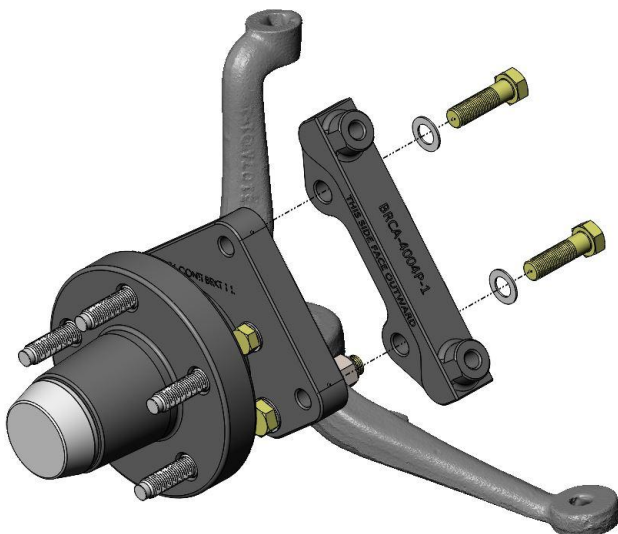

Figure 4a – Secondary Caliper Bracket Installation (LH Side Shown)
- Mount the Secondary Caliper Mounting Bracket to the previously installed primary bracket using the supplied 1/2"-20 x 1.75" Grade 8 Hex Head Bolts and AN Flat Washers. **NOTE: Only snug these bolts at this time because during the caliper shimming process in a later step this will be the location where shims will be installed.** See Figure 4a and 4b below for reference.